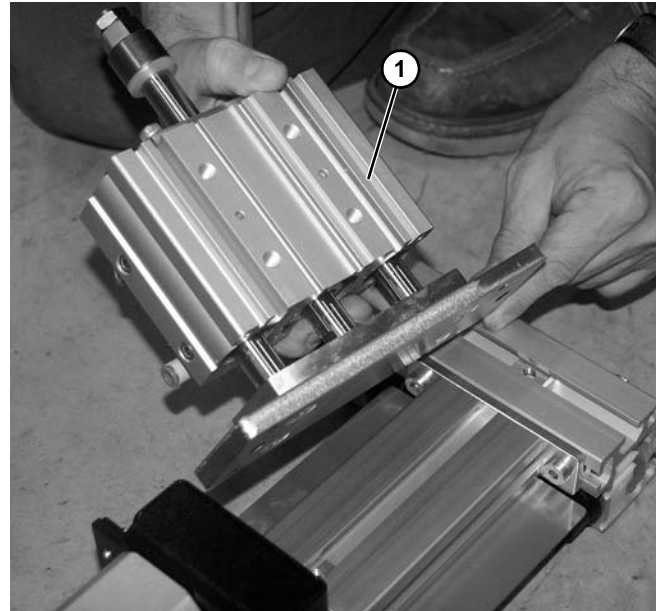

Figure 115
13. Remove cylinder (Figure 115, item 1) from conveyor frame.